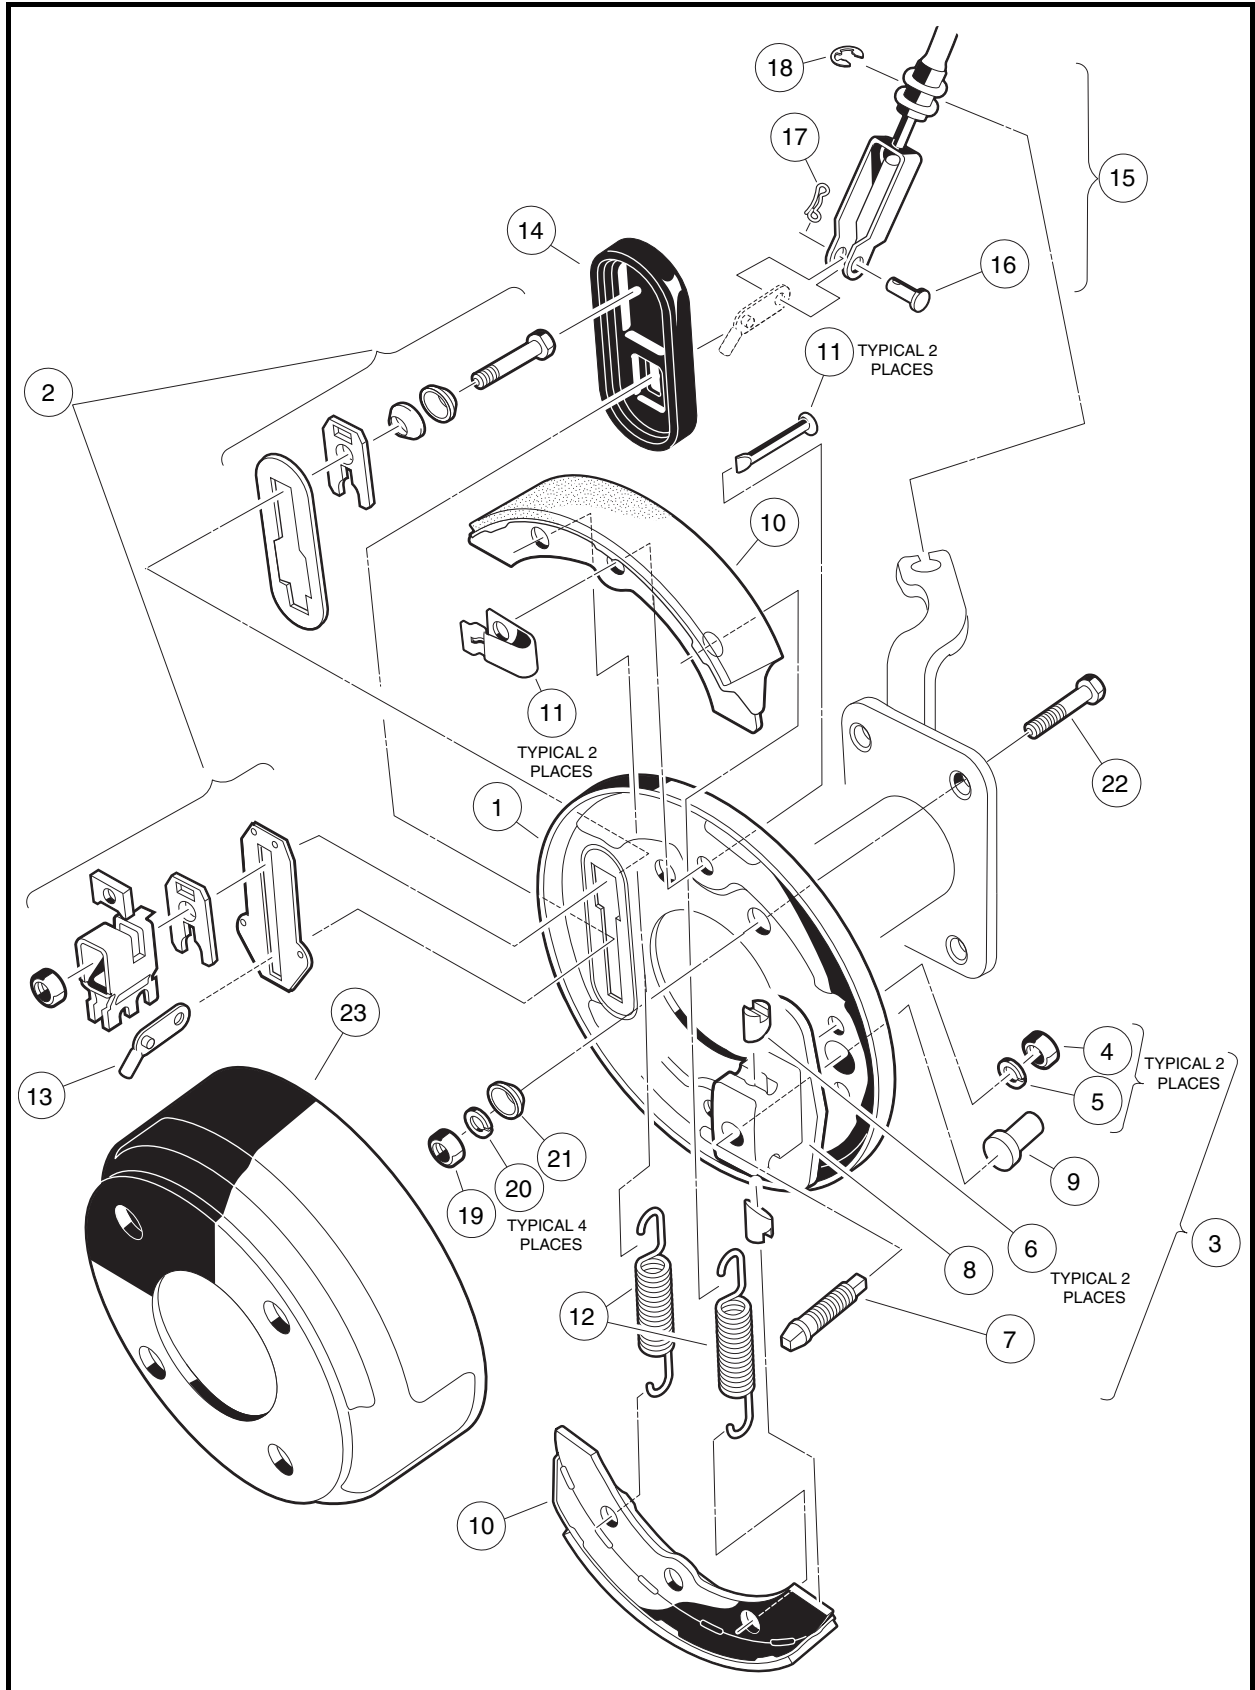

Figure 6-32 Front Manually-Adjusted Brake Assembly
**NOTE:** Components of the front wheel brake assembly are identical to the rear wheel manually-adjusted brake assembly. The front brake assembly is rotated 90° (when compared to the rear brake assembly) so the adjusting bolt on each assembly is oriented to the rear of the vehicle rather than at the top of the assembly (**Figure 6-32, Page 6-15**).
5. Remove bow-tie pin (17) and clevis pin (16) from brake cable (**Figure 6-32, Page 6-15**).
8. Remove hub and bearing assembly from spindle shaft. Remove four bolts (22), cone washers (21), lock washers (20) and hex nuts (19) that mount the brake assembly to the spindle (**Figure 6-32, Page 6-15**).
1. Install in reverse order of removal. Use bolts (22), cone washers (21), lock washers (20) and hex nuts (19) to mount brake assembly (**Figure 6-32, Page 6-15**).